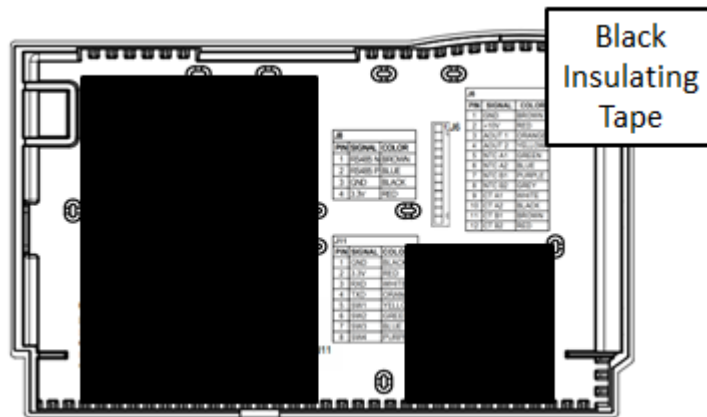

Figure 8: Backplate with UL-Rated Insulating Tape
1. Ensure no airflow from JBOX or wall cavity is able to seep into the thermostat through the wire harness. Telkonet recommends the use of UL caulk or UL rated insulating tape as shown in Figure 8 to avoid false temperature readings.